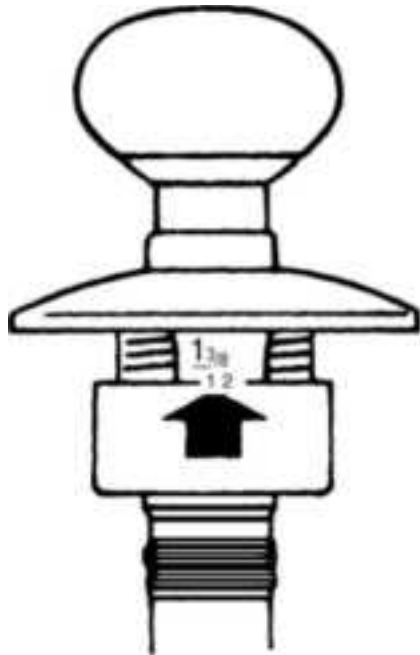

**Figure 19.46** Electrified key-in-knob lock installation, Step 4.
4. Adjust for the door thickness by moving the outside rose either in or out until the indicator on the lock shows the proper thickness for the door. Make sure the rose clicks into place (Fig. 19.46 ). The lock will fit on all doors  $1\frac{3}{8}$  to 2 inches thick. (If you need a lock for a thicker door, special order it from the company.)